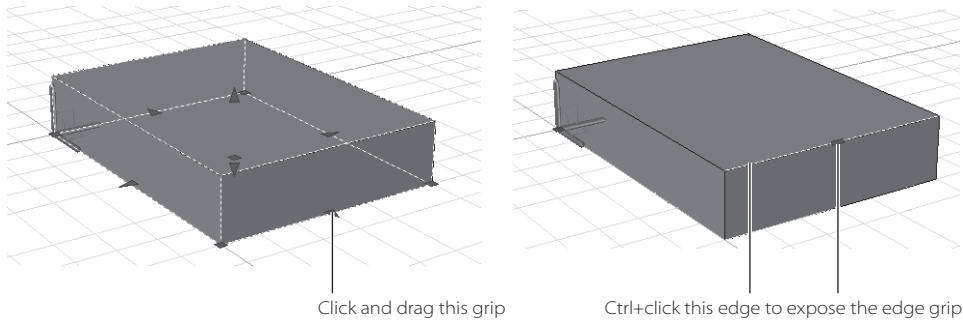

Figure 6.10
Once you’ve created a solid, you can fine-tune its shape by using grips. If you click the solid to select it, you might see a message alerting you to the new editing options. Dismiss the message, and you will see that grips appear on the 3D solid, as shown in the left image of Figure 6.10.
1. Click the arrow grip toward the front of the box, as shown on the left in Figure 6.10. Now as you move the cursor, the box changes in length.
1. Ctrl+click the top-front edge, as shown on the right in Figure 6.10. You might see a Selecting Subobject dialog box; dismiss it. You'll see that the edge is highlighted, and a grip appears at its midpoint.